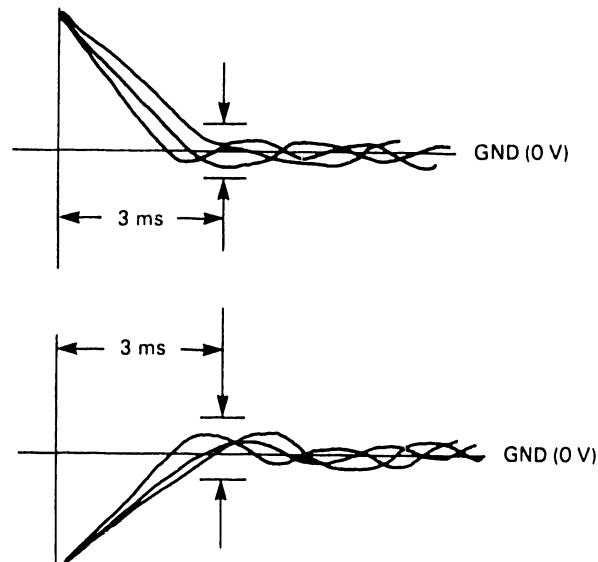

Figure 5-4 Transient Response Waveform
7. Check that the transient response waveform matches the waveform shown in Figure 5-4.